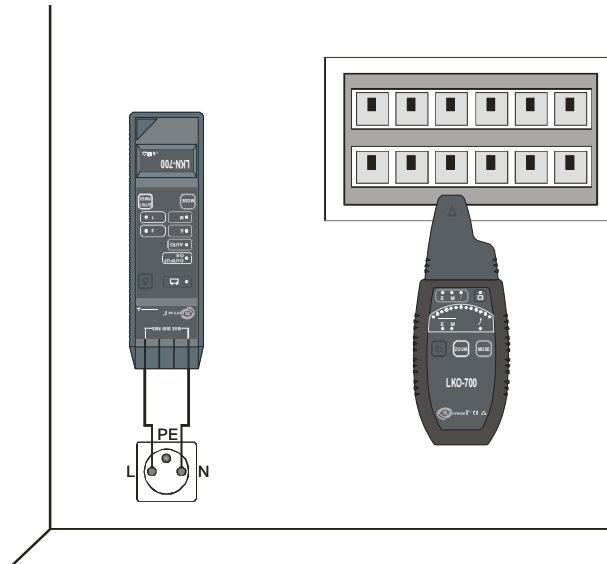

Fig.10 Identification of circuit breakers in a distribution board
- Moving the receiver's antenna from one fuse to another and using the **16**  button (section 7.1) locate the fuse you are looking for based on the maximum strength of the received signal (Fig.10).